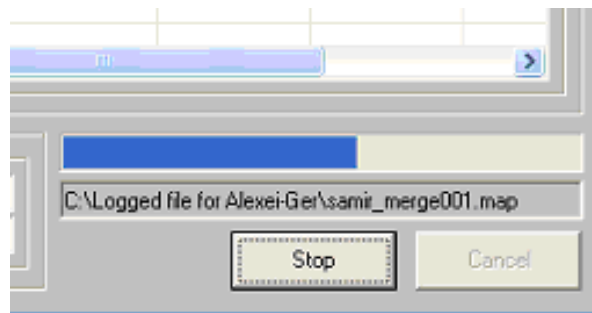

Figure 41: Merging process
3. Once the scanning process is complete, the merge process starts, the name of the output file appears below the progress bar, and the progress bar shows the progress of the merge process (See Figure 41).